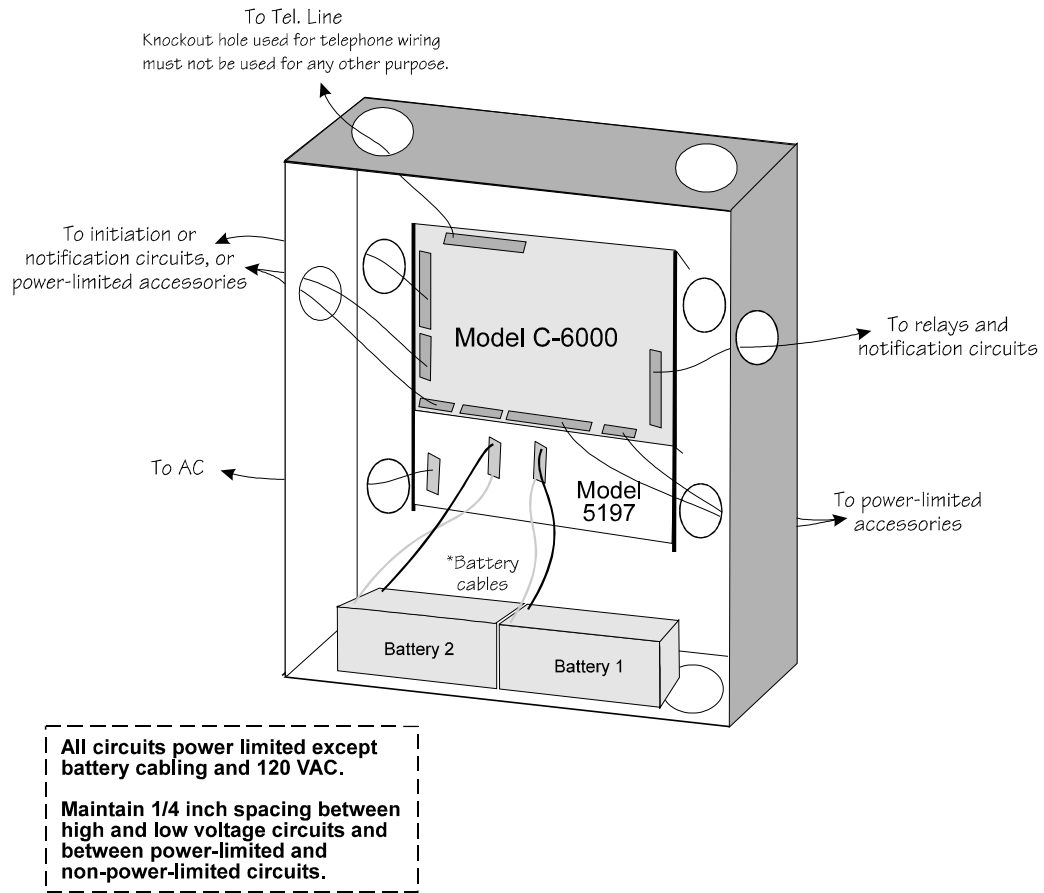

Figure 3-1. Wire Routing Example
- Route the wiring within the cabinet around the perimeter of the cabinet. It should not cross the printed circuit board where it could induce noise into the sensitive microelectronics or pick up unwanted RF noise from the high speed circuits. See Figure 3-1 (next page) for an example.